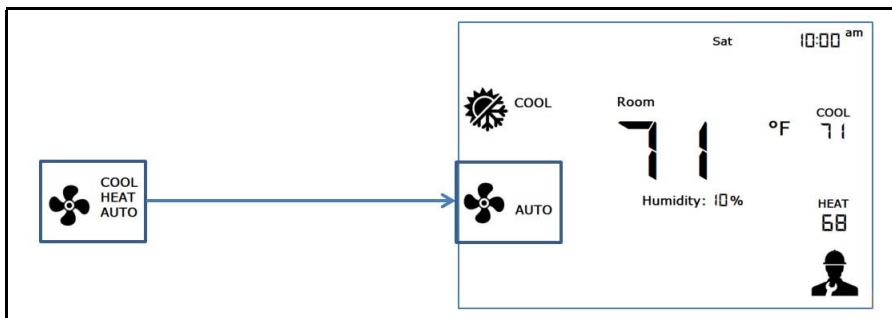

Figure 3-24 - Fan Mode Selection
Fan mode can be either AUTO or ON. To change the Fan Mode, press (touch) the icon  (Figure 3-24). When the FAN_MODE is AUTO, the fan will be active only when heating or cooling call is active. While when FAN_MODE is ON, the fan stays active (ON) independently of “Thermostat mode” or heating and cooling conditions.